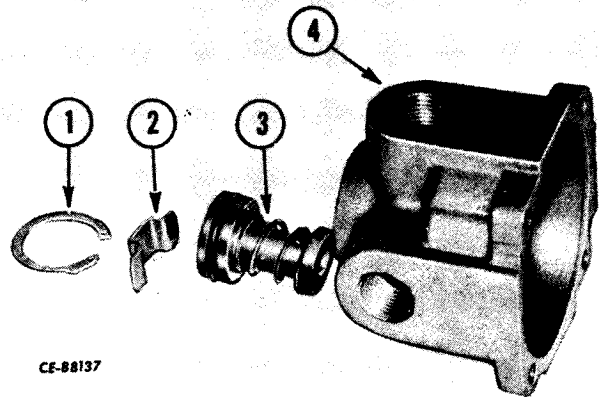
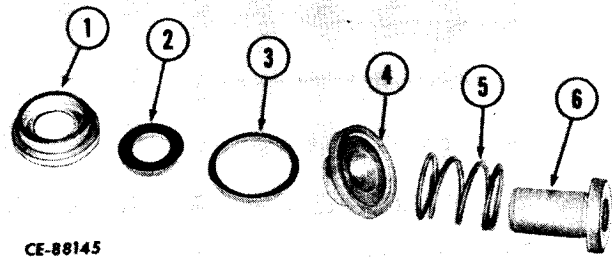

Figure 13-38
Figure 13-39
Using snap ring pliers, remove retaining ring (1, Fig. 13-38). Remove exhaust shield (2) and inlet and exhaust valve assembly (3) from lower body (4).
Disassemble valve assembly (3, Fig. 13-38) by removing inlet valve (6, Fig. 13-39), spring (5), valve guide (4) and seal (3) from shield retainer (1). Remove vee packing (2) from groove in retainer. Discard seal (3).